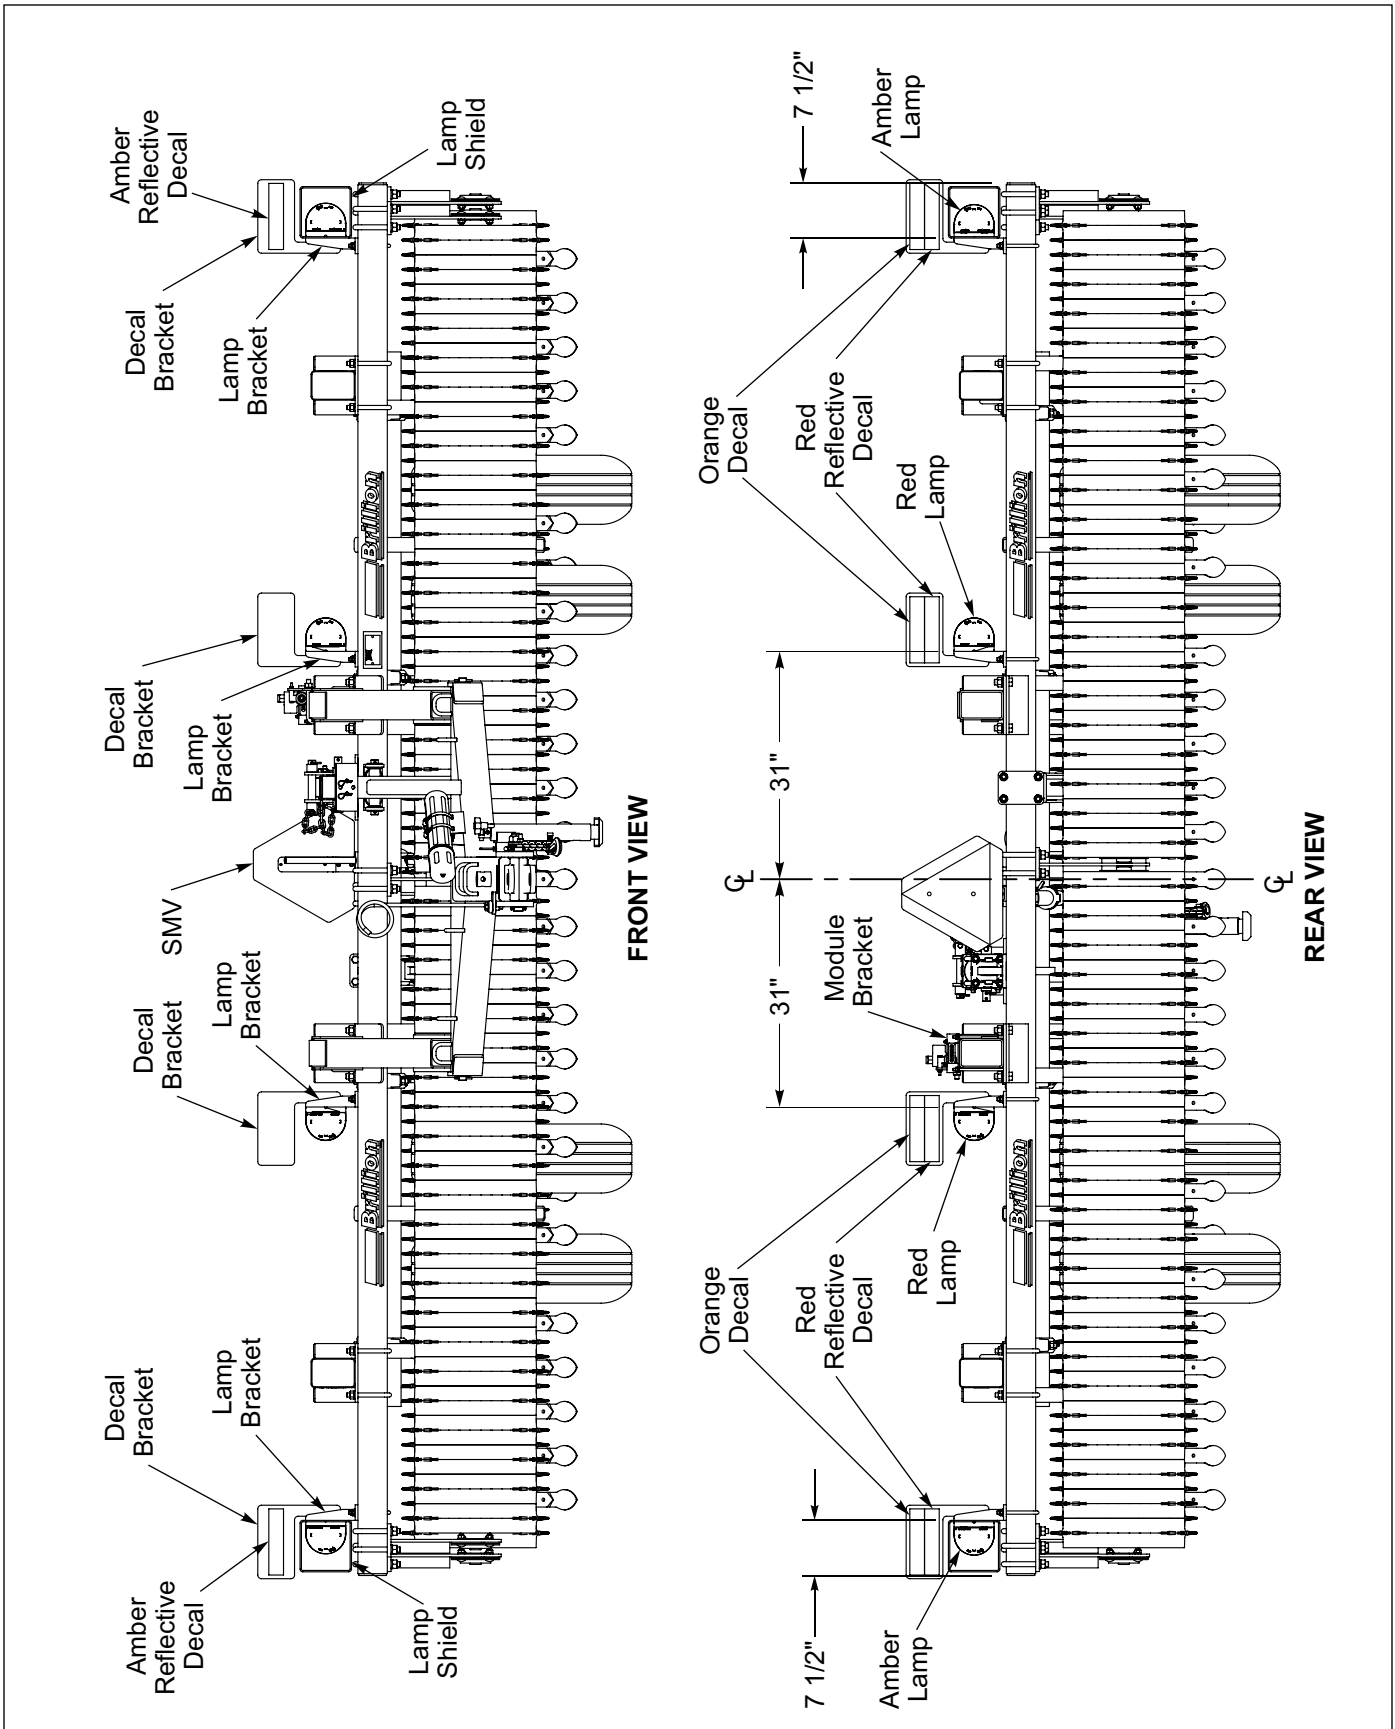

Figure 2-28: LED Warning Lights Installation Dimensions
1. Install a Lamp Bracket approximately 31 inches from center line on each side of the rear frame tube using 1/2-13 U-Bolts and Flanged Locknuts. **See Figure 2-28.**
3. Install a Lamp Bracket approximately 7-1/2 inches from each end of the rear frame tube using 1/2-13 U-Bolts and Flanged Locknuts. **See Figure 2-28.**